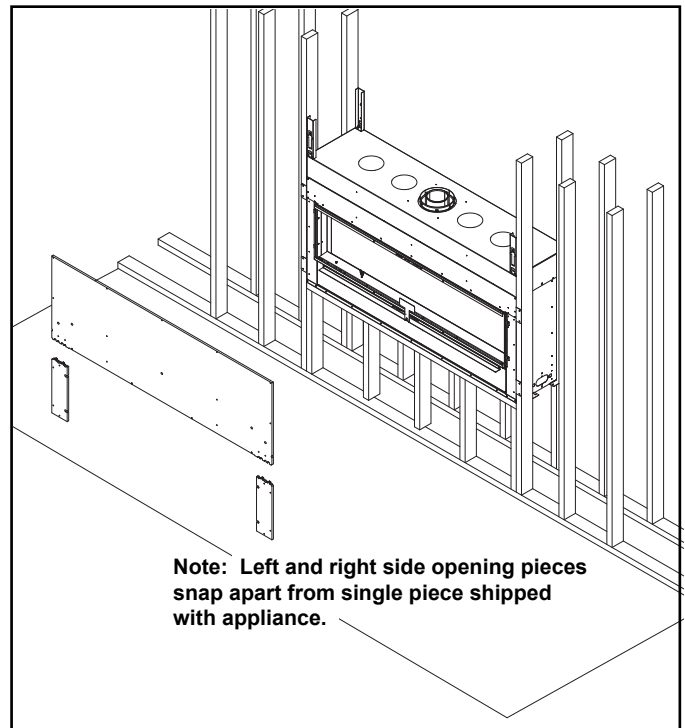

Figure 6.9 Install Factory-Included Non-Combustible Facing Material ←
- Attach top board to the framing members with regular sheetrock screws or nails. See Figure 6.9.